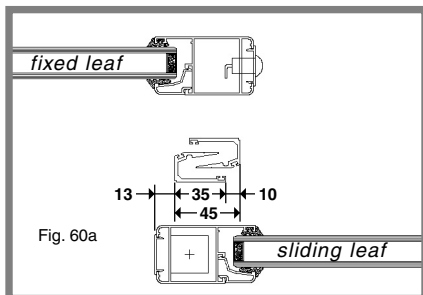

Fig. 60a
- Drill the fixed and sliding leaves following the scheme in Fig. 60a, b. Provide for at least 1 screw every 400mm, excluding the strickle zone of the sliding leaf.